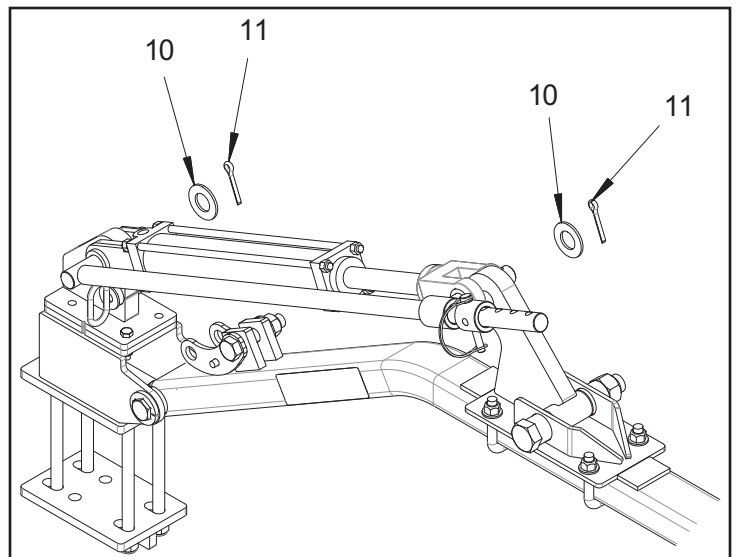

Figure 2.5 - Hydraulic Ram Mount Installation
3. Once the ram is in place and the holes on the ram are lined up with the holes on the mounting tabs, slide the Depth bar assembly fully thru all holes to secure the ram and depth bar assembly. See *Figure 2.5*